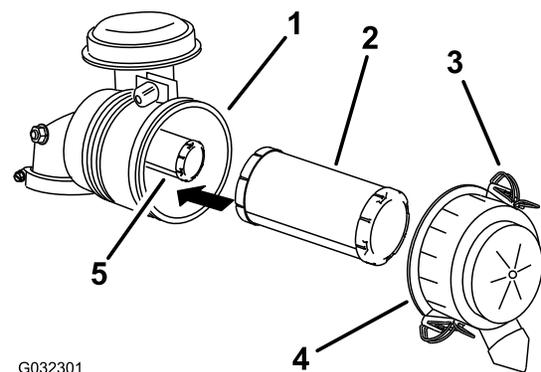

Figure 48
3. Release the latches on the air cleaner and pull the air-cleaner cover off the air-cleaner body (Figure 48).
5. Gently slide the primary filter out of the air-cleaner body (Figure 48). Avoid knocking the filter into the side of the body.
2. If you are replacing the safety filter, carefully slide it into the filter body (Figure 48).
3. Carefully slide the primary filter over the safety filter (Figure 48).
4. Install the air-cleaner cover with the side indicated as **up** facing upward and secure the latches (Figure 48).